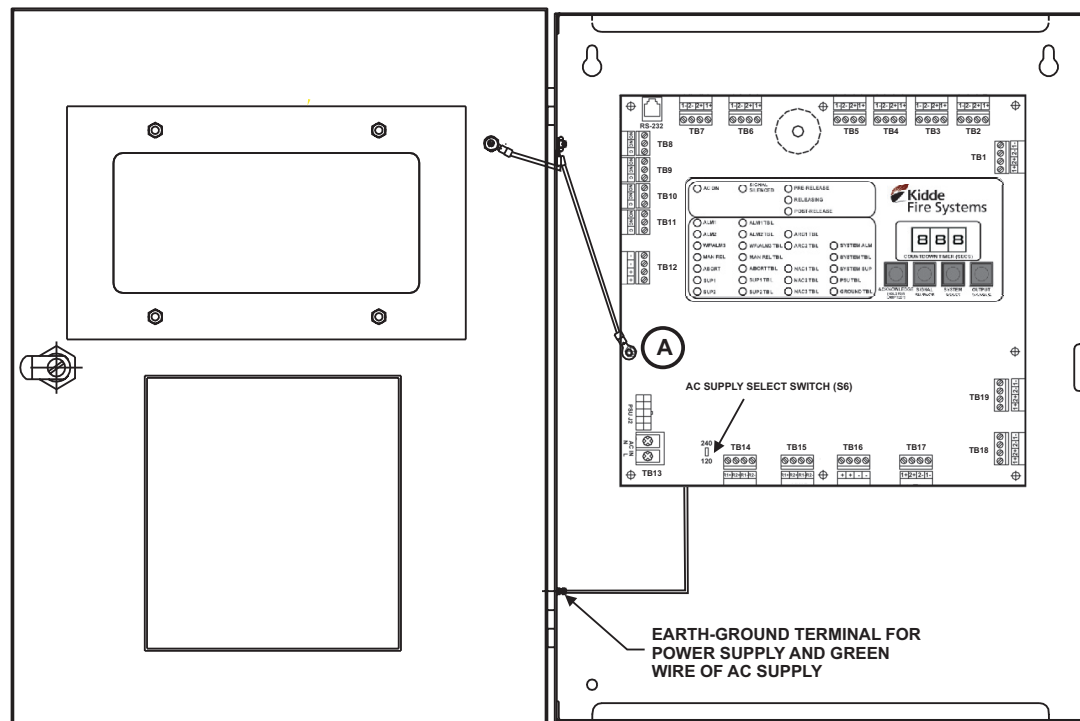

Figure 2-9. PCB-to-Cabinet Grounding Diagram
6. Place the free end of the longer of the two factory-installed Earth-Ground wires under the screw assembly of the PCB (marked detail A in Figure 2-9). Tighten the remaining eight screws. Be careful not to over-tighten.